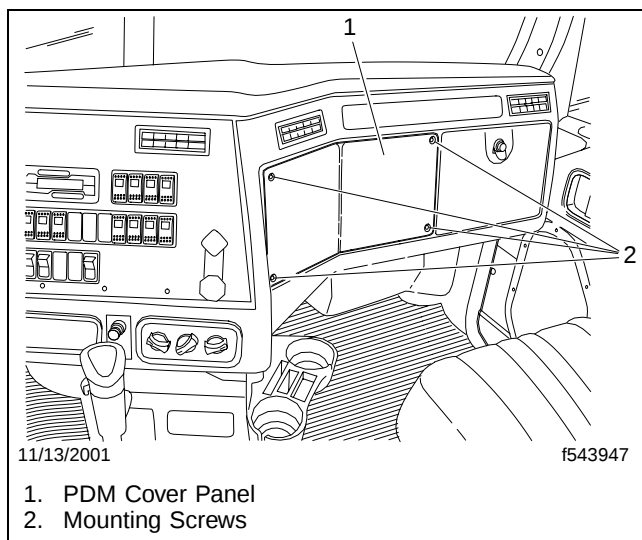

Fig. 1, Dash Panel
5. Remove the dash PDM access panel, located on the passenger side of the vehicle. See **Fig. 1**.